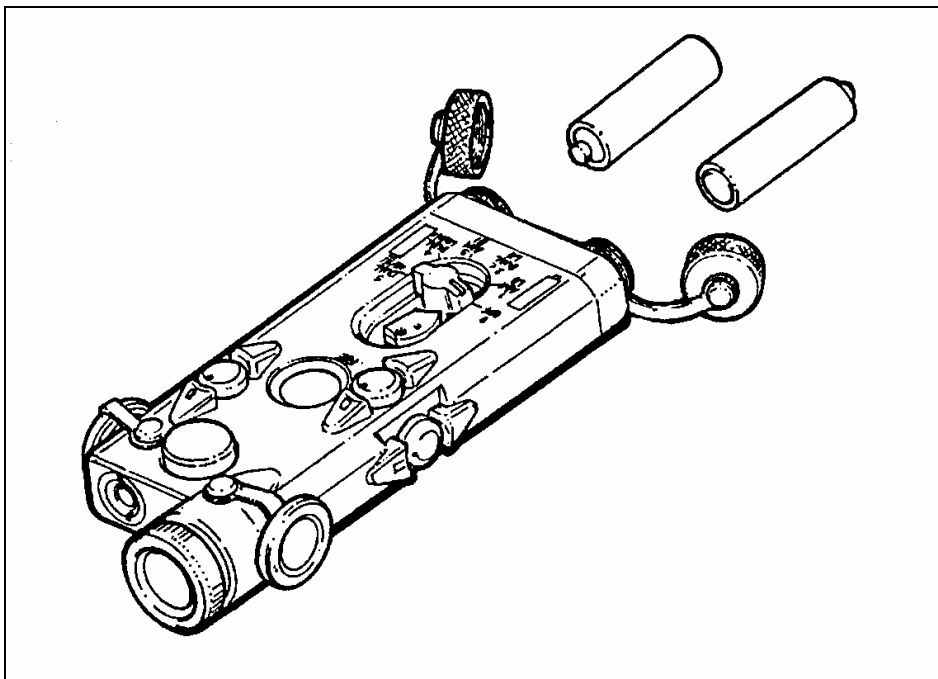

Figure G-2. AN/PEQ-2A battery installation.
(1) **Battery Installation.** To install batteries in this device, first unscrew the battery caps and install two AA batteries. Orient the batteries as indicated by the markings on the AN/PEQ-2A body (Figure G-2).